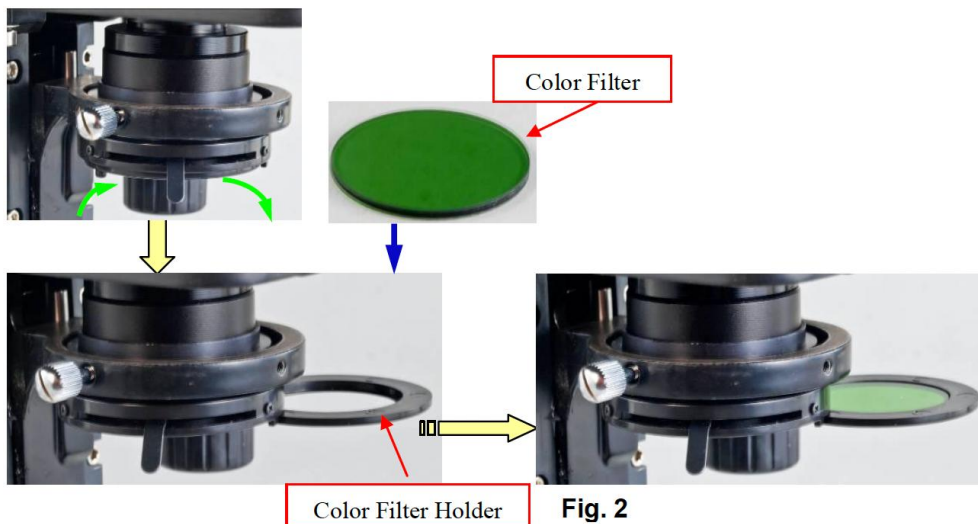

Fig. 2
- 2) Place the filter into the holder as shown in Fig. 2, swing the holder in.